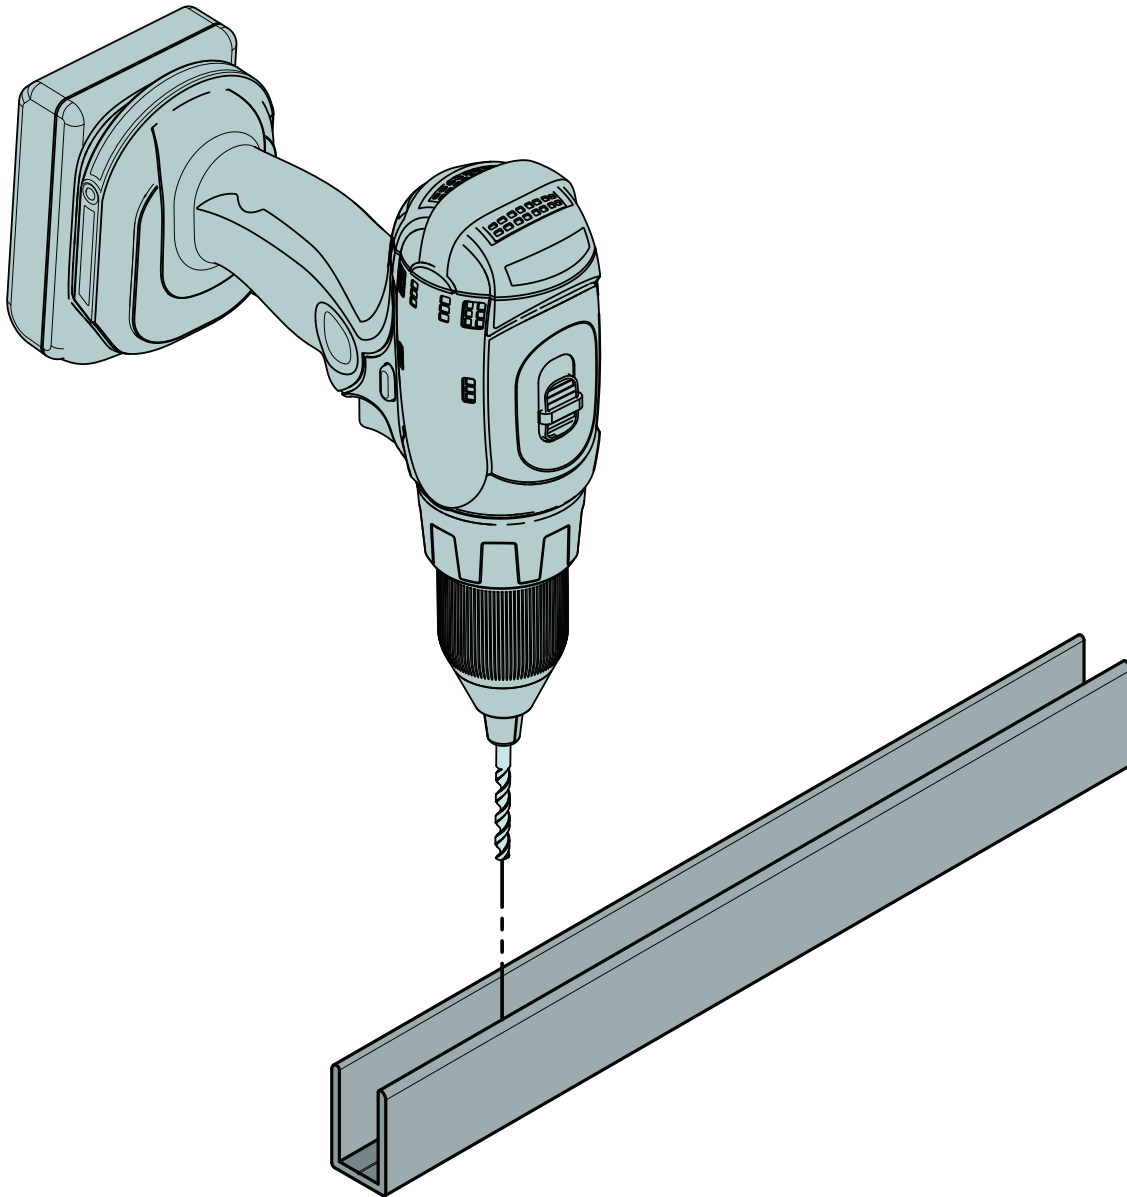

Figure 4
3. Drill and countersink the channel. **(Figure 4)**